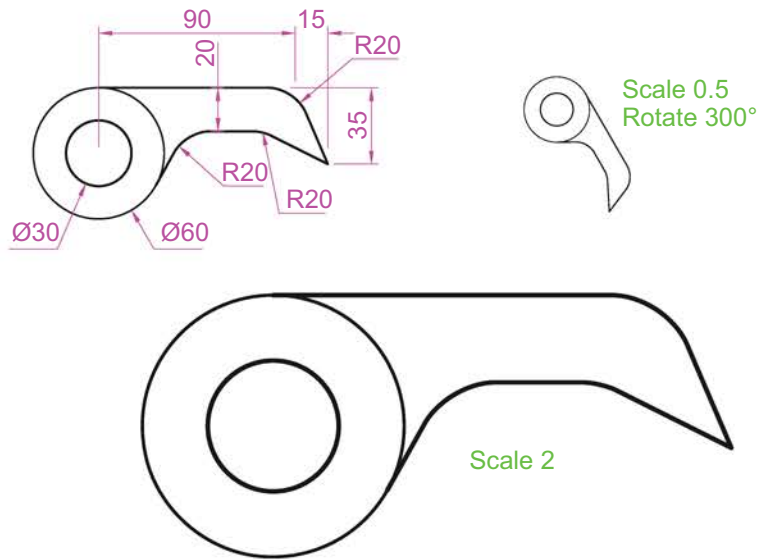

Fig. 6.50 Exercise 8
8. Construct the dimensioned drawing Fig. 6.50. With **Copy**, copy the drawing. Then with **Scale**, scale the drawing to a scale of **0.5**, followed by using **Rotate** to rotate the drawing through an angle as shown. Finally, scale the original drawing to a scale of **2:1**.